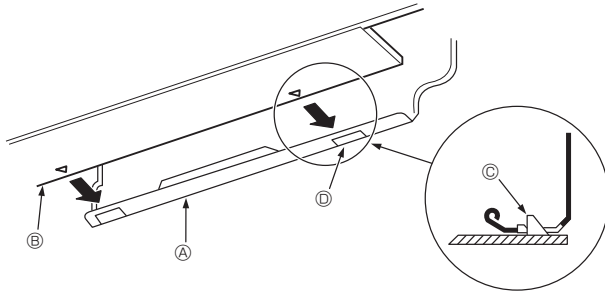

Fig. 3-15
3. While inserting the refrigerant piping and drain hose into the wall penetration hole (penetration sleeve), hang the top of the indoor unit to the mount board ①.
5. Fasten by pushing the bottom part of the indoor unit onto the mount board ①. (Fig. 3-15)
- \* Check that the knobs on the bottom of the indoor unit are securely hooked into the mount board ①.
- ① Mount board
- ② Indoor unit
- ③ Hook
- ④ square hole